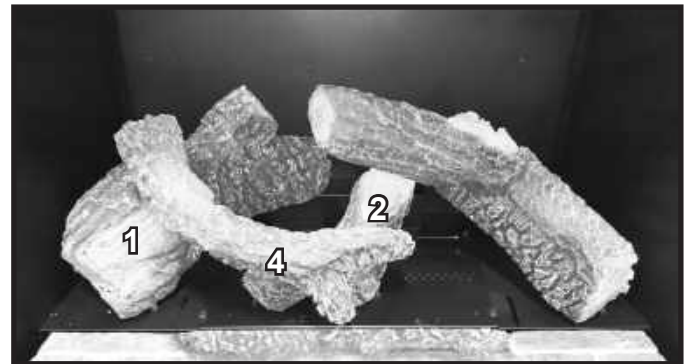

Figure 13. Log #4 Installed
**LOG #4:** Set the non-Y end of log 4 on the flat spot of Log #1. The end of Log #4 will sit flush with the back of Log #1. The Y-end of Log #4 will sit on the flat spot of Log #2. See Figure 13.